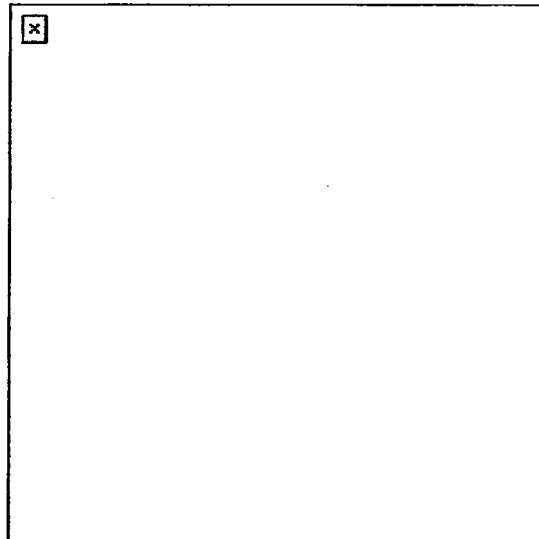

Figure 191-376-0002-2
- (1) Write the statement as a narrative, as a series of questions with the individual's answers, or as a combination of both of these methods.
- (2) Ensure that the body of the statement contains information about who, what, where, when, why, and how.
- (3) Ensure that your last question is always: "Do you have anything you wish to add concerning the matter under investigation?"
- (4) Ensure that all elements of proof for the crime are included. Be sure to include that the times and dates of specific acts and the methods used to complete the crime. Include information—
- (5) Ensure that the statement is written from border to border on the form. Continue the second page of the form if there is not enough space on the first page. Refer to Figure 191-376-0002-2.
- (a) Use a continuation page for the statement, if needed. On each continuation page, place in the space provided, the same information of the person making the statement, as identified in the heading on the first page of DA Form 2823. Refer to Figures 191-376-0002-2 and 191-376-0002-3.